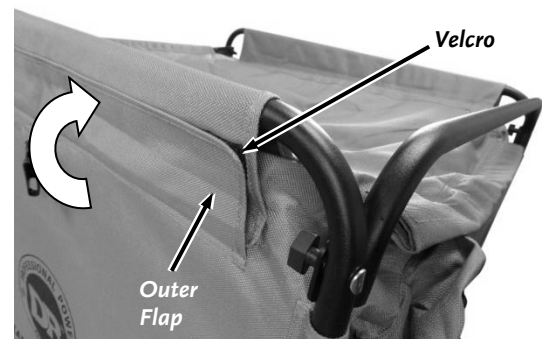

Figure 42
21. Lift the Outer Flap up and secure it to the Velcro on the Inner Flap. Repeat for the other side (**Figure 42**).